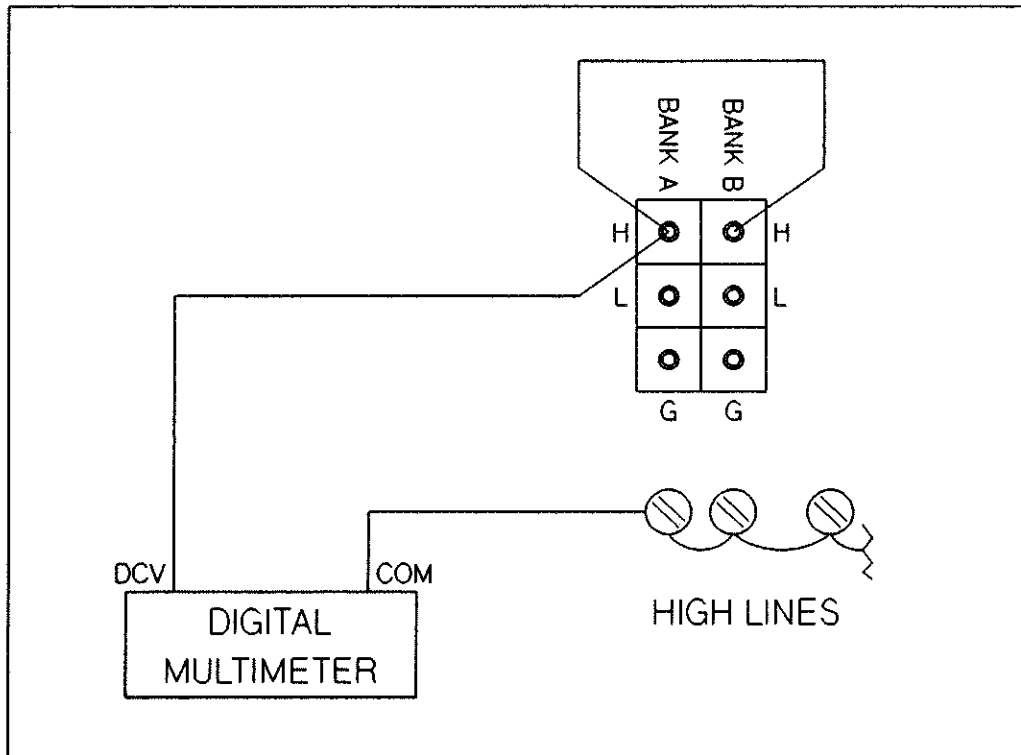

Figure 9-7 HP 44709A/44710A HIGH Channel Test Set-Up
2. Refer to Figure 9-7. On the test fixture, connect the multimeter DCV lead to the Bank A HIGH common test point. Connect the multimeter COM lead to the shorted HIGH connections of the channels. Short the Bank A and Bank B HIGH common test points together. Set the multimeter to measure two-wire ohms.